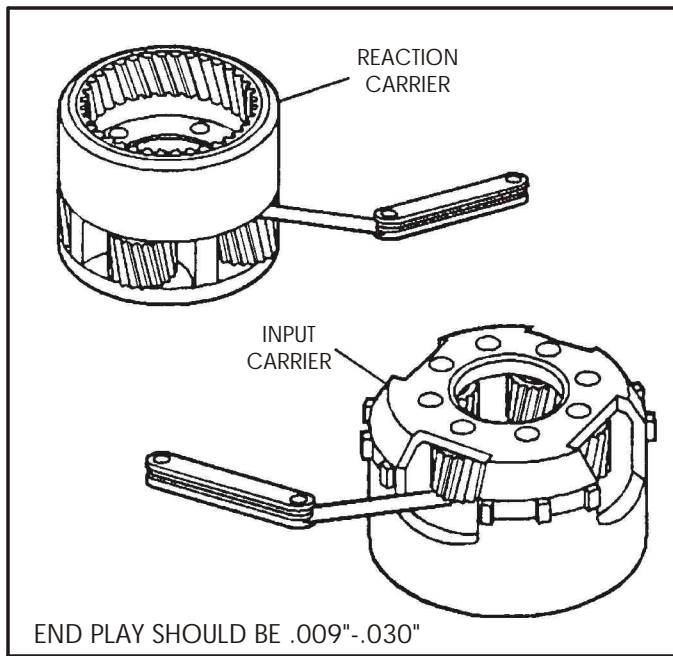

Figure 94
1. Using a feeler gage, measure the pinion end play in the input carrier and reaction carrier, as shown in Figure 94.